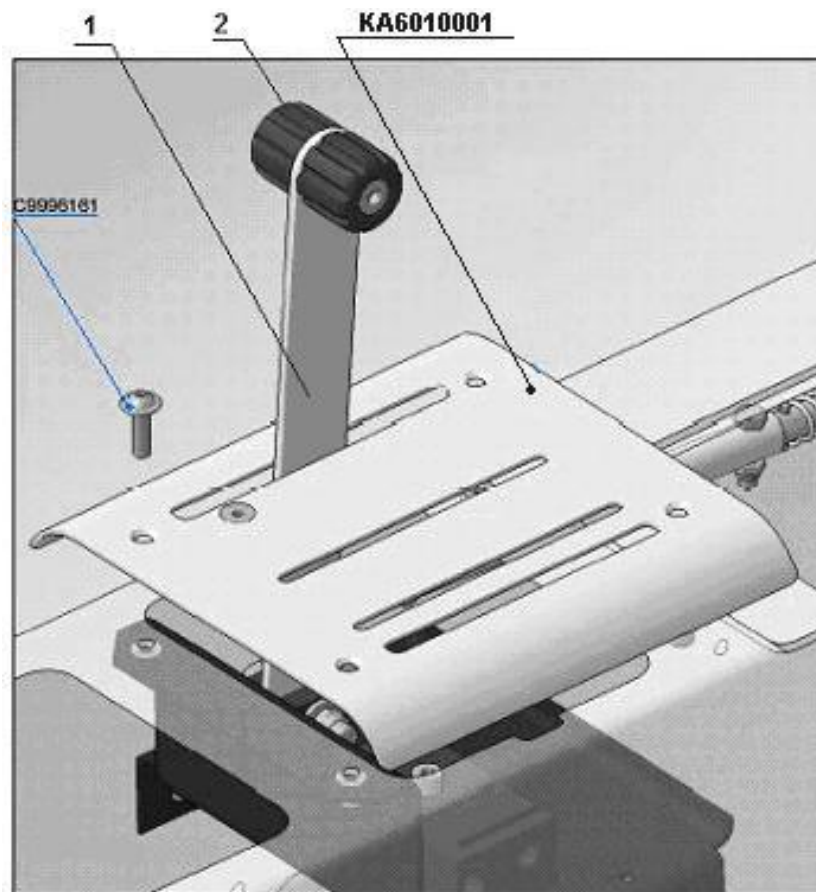
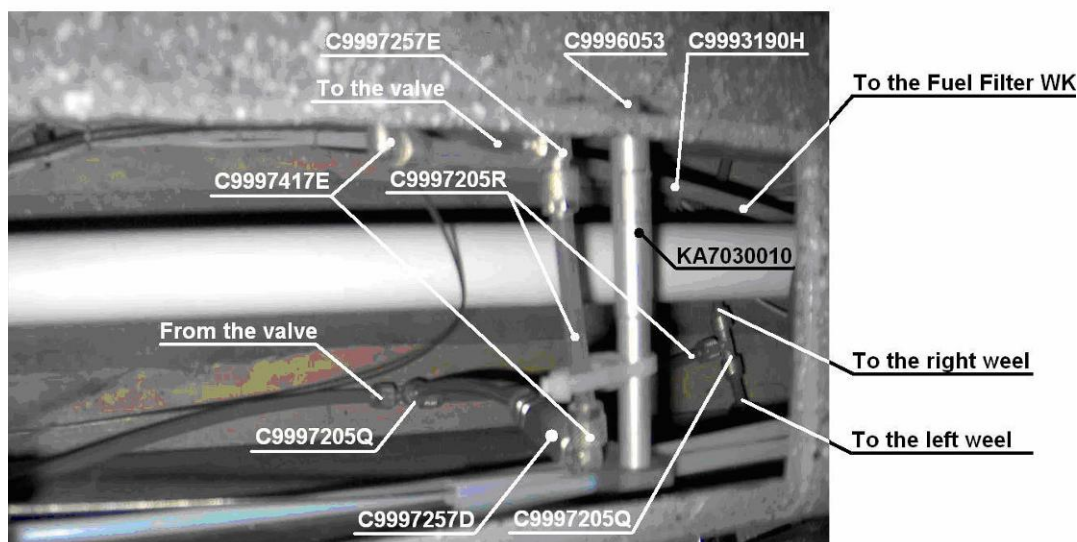

Fig. 2
Fig. 4
Check the brake control handle (item 1, Fig. 2) for play (up to $1 \frac{3}{16}$ " / 3cm) prior to using brake, before flight.
Remove the access panel KA6010001 (Access Panel) for inspection. For that remove the knobs (item 2, Fig. 2) using a hex-nut wrench 4 from the levers (items 1, Fig. 2) and unscrew the four screws C9996161 (Screw ISO 7380 M5x12).
Check the control lever (items 1, Fig. 2, Fig. 3), brake cylinder KA7030100 (Brake cylinder), and parking brake C9997419A (Fuel valve K-MI-561-1/8-22-II-MSV) (Fig. 2, Fig. 3) for operating.
Brake system controls connections are shown at Fig. 4.
Note that while installing the brake system lines the tee fitting C9997205Q - that distributes fluid between the left and right wheels must be shifted towards the left wall of the tunnel in order to ensure free access to the check valve C9997257D (Check valve L-RV6-11-1/8-MSv), Fig. 4.
Operation of the brake system is based on functioning of KA7030100 (Brake cylinder) (item 3, Fig. 3, Fig. 4), C9997419A (Fuel valve K-MI-561-1/8-22-II-MSV) (Fig. 2, Fig. 3) and C9997257D (Check valve L-RV6-11-1/8-MSv) (Fig. 4). If concerns raised, do the following.
1. For the check valve C9997257D (Check valve L-RV6-11-1/8-MSV), Fig. 4, carry out operations of the chapter IV and check the system.
2. For the parking brake C9997419A (Fuel valve K-MI-561-1/8-22-II-MSV), Fig. 2 and Fig. 3) carry out operations of the chapter IV and check the system.
3. For the brake cylinder KA7030100 (Brake cylinder) (item 3, Fig. 3 and Fig. 4) carry out operations of the chapter IV and check the system.
Make sure the brake control handle (item 1, Fig. 2 and Fig. 3) is in most forward position.
Make sure the aircraft is not set on parking brake, i.e. the valve C9997419A (Fuel valve K-MI-561-1/8-22-II-MSV) (Fig. 2 and Fig. 3) is open and the handle of the valve is aligned to aircraft longitudinal axle.
3. Fill the lines with brake fluid so that it goes further 4" / 10cm from the tee fitting C9997205Q (Fig.4), that connects the lines from the right and left wheels, towards the brake cylinder KA7030100 Brake cylinder (item 3, Fig. 3 and Fig. 4).